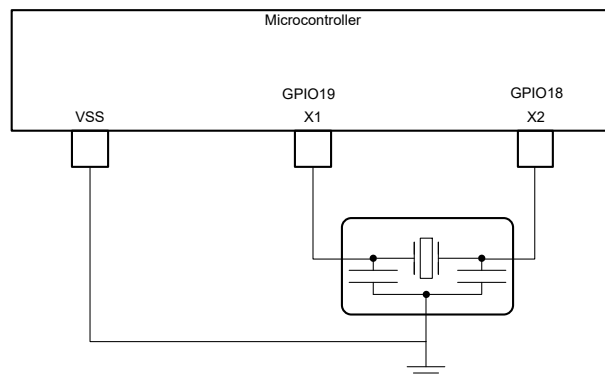

Figure 6-14. External Resonator
- An external resonator. The resonator should be connected across X1 and X2 with its ground connected to VSS as shown in Figure 6-14.